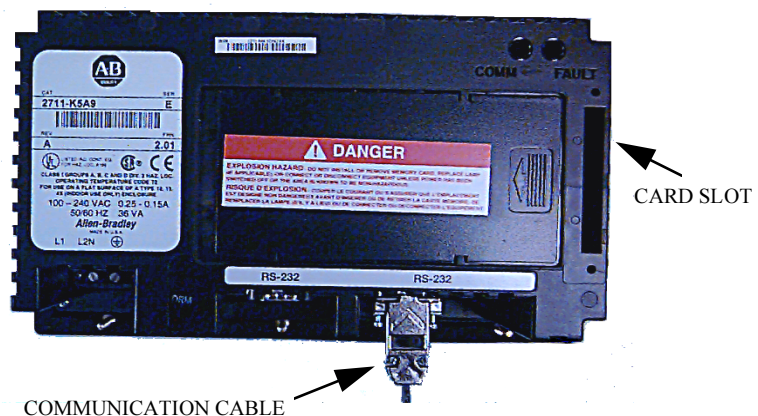

Figure 3.106 – Rear View of Operator Interface
1. Locate the vertical card slot on the back of the operator interface. See Figure 3.106.